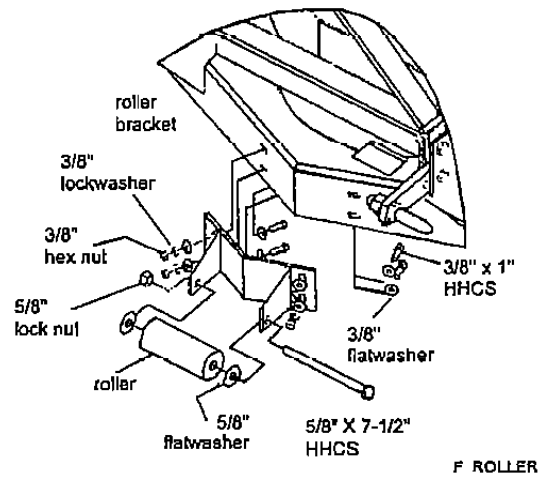

Figure 20
**Optional Front Roller Installation (Figure 20)**